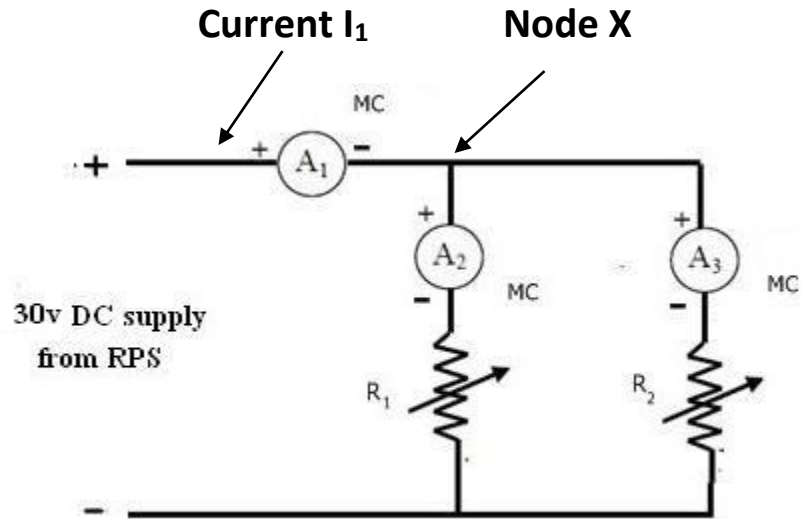

Fig.1
1. Arrange all the resistors on the bread board as per the circuit diagram of Fig.1.